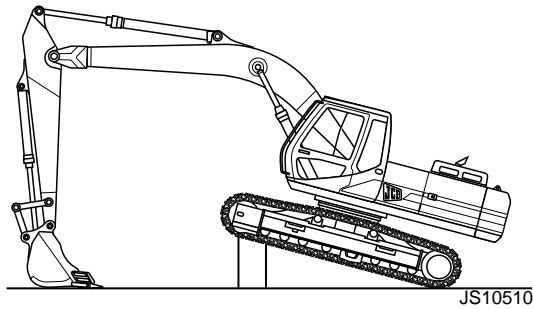

Fig 2.
- 1 Jack up the machine by pressing the boom/dipper on the ground. Install wooden blocks under the tracks. → Fig 2. (E-172).